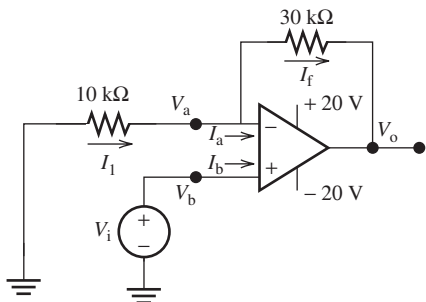

FIGURE P8.70 Circuit for Problem 8.70.
- 8.70** (B)* Consider the circuit shown in Figure P8.70. Find the following: